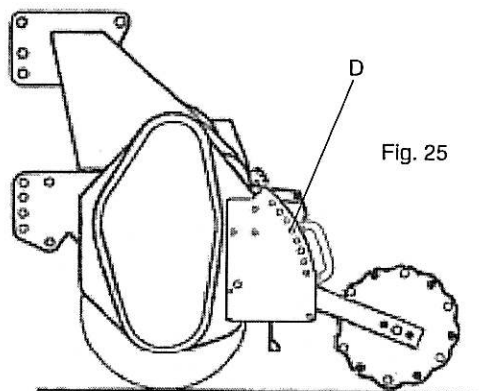

Fig. 25
Fig. 25 illustrates the attachment of a wheel assembly which can be fitted to the right or left hand side of the machine. Ensure the Scraper is always positioned above the depth control wheel. Position the depth control wheel to the required working depth by turning the handle (A).
Rotavators 500 can be equipped with Crumble Rollers specially designed for seedbed preparation. Fig. 25 illustrates the attachment of the Crumble Roller (A), Mounting Arm (B), to the roller and Depth Control Pin (D). The bolting position of the Mounting Arm allows variable distances of attachment of the Crumble Roller to the Rotavator, e.g. close mounting for Combi Trailing Board or distant for standard Trailing Board. The work depth is adjusted by the Control Pin (D). Crumble Rollers can be rapidly replaced by Depth Control Wheels which incorporate their own Mounting Arm.